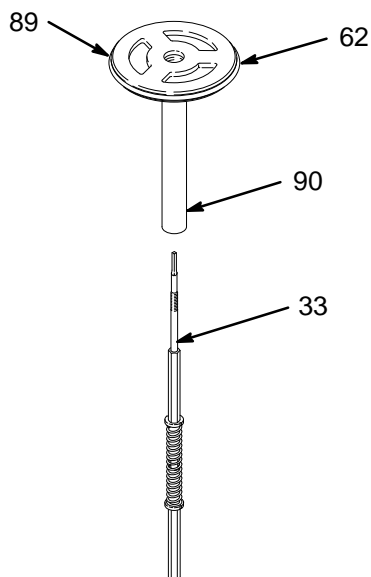

Fig 7
12. Remove the screws (44) and lockwashers (39) and pull the cylinder (81) straight up off the piston. Remove the dampener pad (61) and washer (60).
13. Remove the trip rod bearing (1), using a 1 in. socket wrench. Remove the gasket (51), washer (54) and packing (55) from the bearing.
14. Pull the piston (89), piston rod (90) and trip rod (33) up out of the base (2). Remove the o-ring (62).
15. Place a wrench on the turned down part of the piston rod (90) and screw out the stud (73).
16. Place a wrench on the top of the trip rod (33) and turn the rod clockwise until the top socket (72) is free. Then count the number of turns it takes to screw out the bottom socket (71). Write the number down: it is important when reassembling the motor.
- NOTE:** If the trip rod is broken, use a 9/16 in. hex key wrench to remove the bottom socket (71). A damaged trip rod cannot be repaired; use a new one.
17. Remove the trip rod (33) from the piston rod (90). See Fig 7.